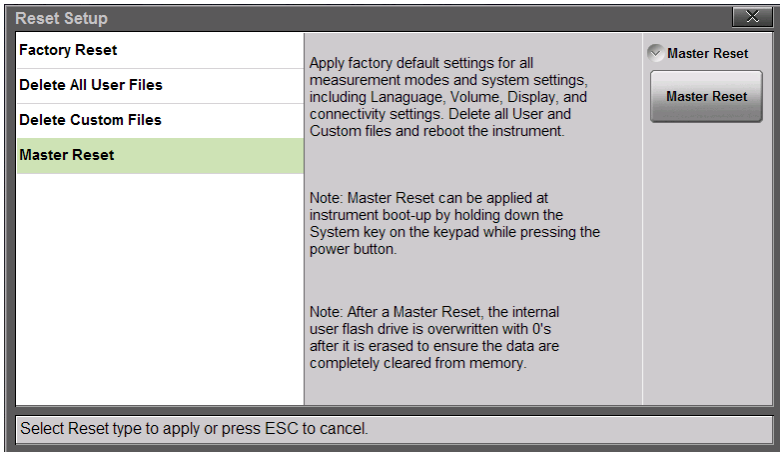

Figure 1-1. Master Reset
1. Press the **Preset (9)** button.
2. Press the **Reset** drop down submenu then press the **Reset** button. Select **Master Reset** and read the description on the screen (Figure 1-1).